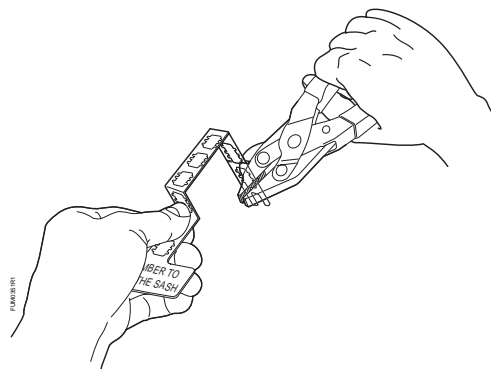
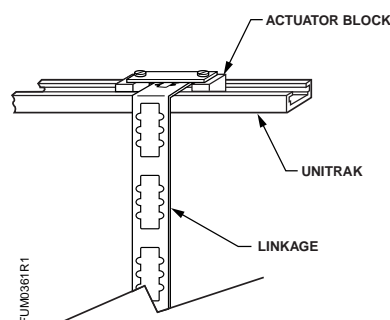

Figure 14. Cutting the linkage.
Figure 15. Attaching Linkage to Actuator Block.
NOTE: When trimming off excess linkage, make sure there is enough of a fork to fit through the actuator. See Figure 14 and Figure 15.
9. Using the linkage-forming tool, cut or score location that will be broken off (Figure 14). Bend the linkage back and forth until it breaks.
11. Attach the linkage to the actuator car by inserting it through the holes on the side of the actuator car (Figure 15).
NOTE: When trimming off excess linkage, make sure there is enough fork to fit through the actuator. See Figure 14 (p. 7) and Figure 15 (p. 7).
16. Attach the linkage to the actuator car by inserting it through the holes on the side of the actuator car. See Figure 15 (p. 7).